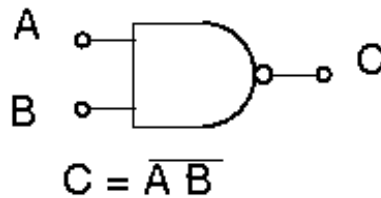

Fig. 6. NAND Gate logic symbol
- 4.2 One very useful application of a Inverter gate is the Inverter Ring Oscillator shown in Fig. 6. You will build a self-sustaining Ring Oscillator and measure its output square-wave frequency. (A similar circuit can be built using NAND gates chained together. You have all the knowledge you need to build this circuit, too. Hint: to build a Ring Oscillator with NAND gates, one of the two inputs needs be set to Ground. Most designers choose either the A or B input to be grounded for each NAND gate in the chain in this application.)
1. Build the Ring Oscillator in Figure 6 using an odd number of discrete MOSFET BS170 Inverters shown in Figure 3 above. Observe the output waveform. Notice that no input excitation at the first inverter is needed; the circuit should oscillate at a high frequency when the inverters are on (i.e. when  $V_{DD}$  is applied to each discrete MOSFET inverter). Zoom out to view at least 4 periods of the ring oscillator output when determining its period of oscillation.